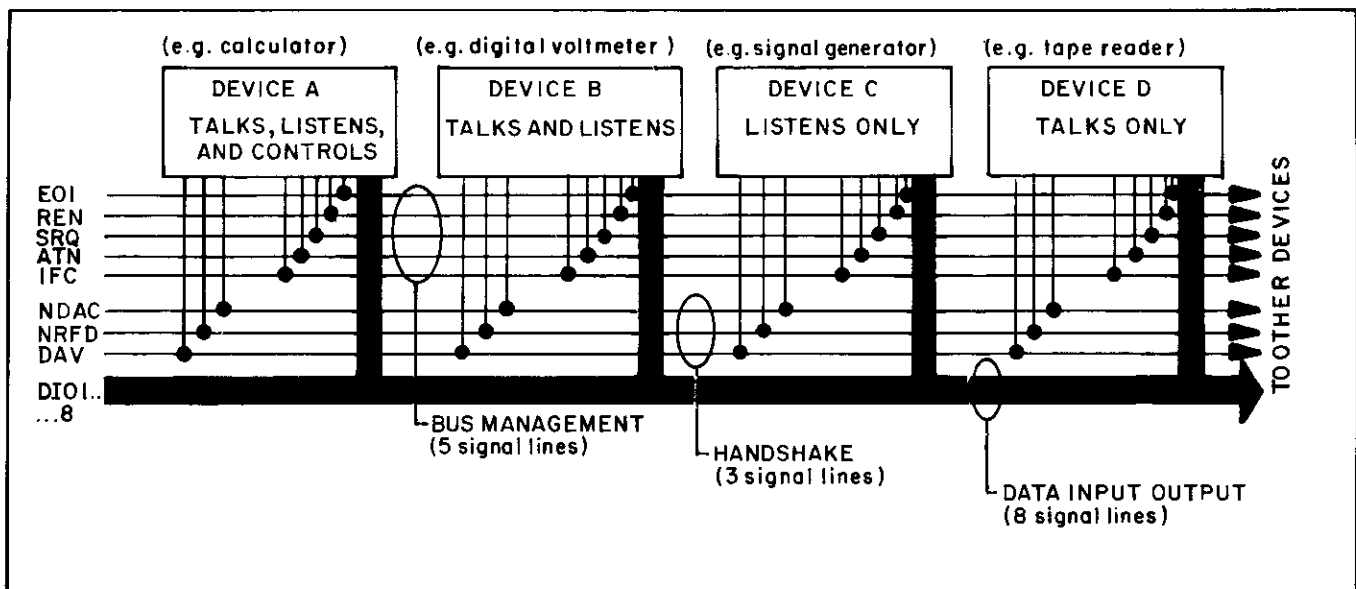

Figure 3-2. General Interface Management Lines.
3-116. The HP-IB consists of 16 active signal lines that are used to interconnect up to 15 devices (e.g., instruments). The 16 signal lines are organized according to function. The categories are DATA, HANDSHAKE, and GENERAL INTERFACE MANAGEMENT lines. The structure of the HP-IB is illustrated in Figure 3-2.
*3-135. Implementation.* The syntax and mnemonics for the program statement that implements the Local Message are found in the controller documentation. Only the listen address, which is \$ for the -hp- 3336, is taken from the instrument documentation. An instrument must be addressed to listen in order for it to enter the Local mode. A technical description of the Local Message implementation is presented in Figure 3-2 of Appendix B.